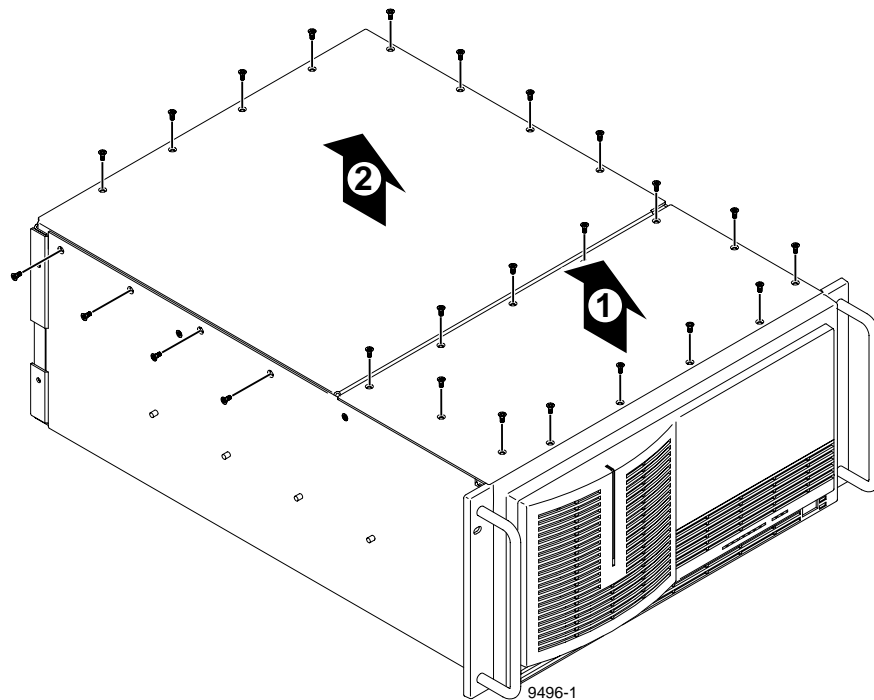
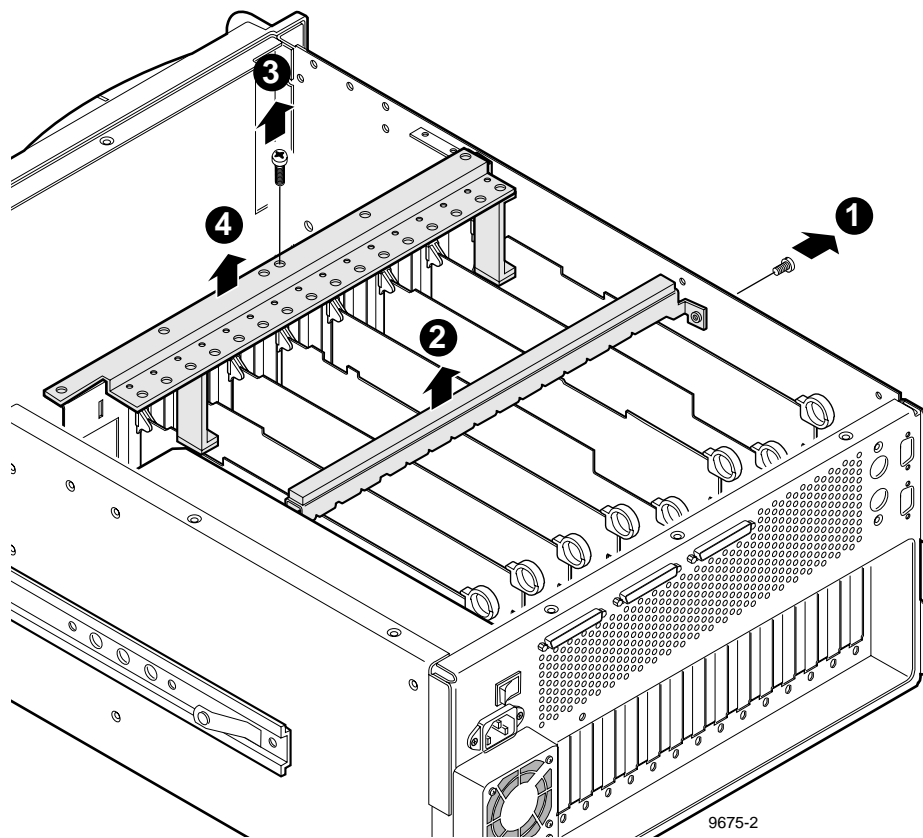

Figure 3. Removing the top covers
Figure 4. Removing the circuit board hold-downs
1. Remove the screws which secure the front cover to the chassis. See Figure 3. The front cover (❶ in Figure 4) must be removed first since its rear edge overlaps the front edge of the rear cover. Discard the front cover.
2. Remove the screws which secure the rear cover to the chassis.(❷ in Figure 3). Set the rear cover aside.
There are two hold-down brackets located in the circuit board area that must be removed in order to remove and replace circuit boards, the fan tray, and the power supply shield. Figure 4 shows these brackets.
1. Use the Torx tool with the T10 tip to remove the screw (❶ in Figure 4) which secures the rear hold-down bracket.
2. Lift the hold-down bracket (❷ in Figure 4) up and out of the chassis and set it aside.
3. Use the Torx tool with the T10 tip to remove the screw (❸ in Figure 4) which secures the front hold-down bracket.
4. Lift the hold-down bracket (❹ in Figure 4) up and out of the chassis and set it aside.